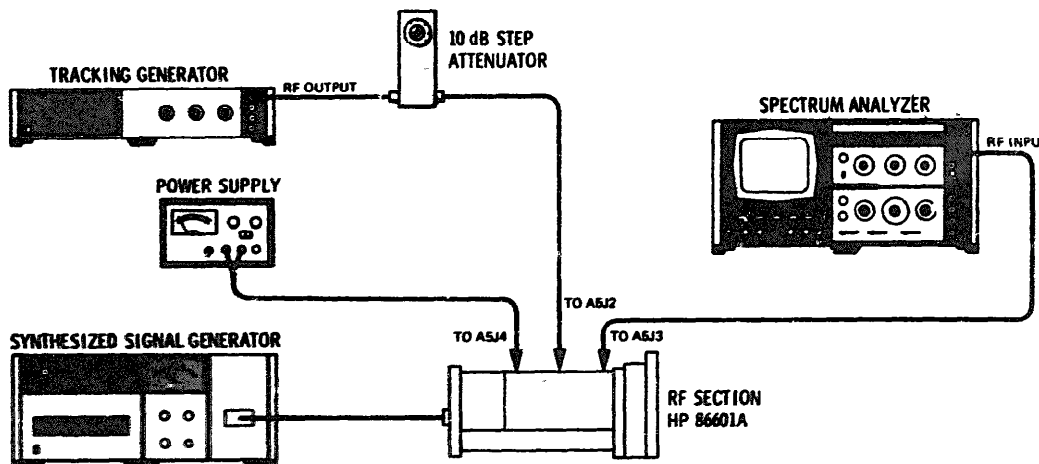

Figure 5-7. Modulator Assembly Adjustment Test Setup.
8. **Connect** the equipment as shown in Figure 5-7.